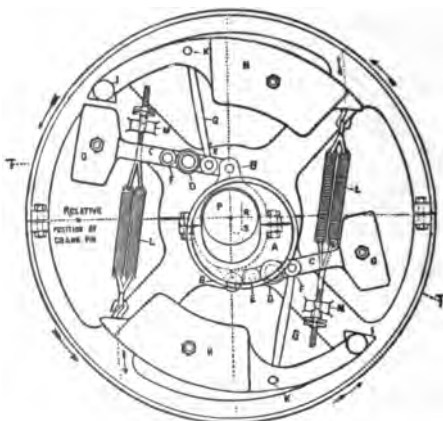
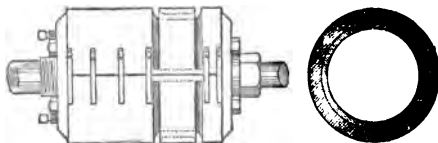

FIG. 21. FITCHBURG GOVERNOR.
FIG. 22. FITCHBURG VALVE.
A. The valve-gear is positive, with independent steam and exhaust valves. The upper valves, worked by a wrist-plate, control admission and cut-off; the lower control the exhaust and are adjustable independently of the others, but not automatically. The valves are pistons (see Figs. 22 and 23) with double ports, and are expandible to take up wear. The exhaust valves are on a line with the cylinder bottom. The governor (Fig. 21) has weights *O*, acting on fulcrums *D*, to balance the weight of the eccentric and strap. The connecting rod *G* is attached to the suspension arm *C* at *E*, acting directly on the eccentric, while the opposite rod *G'* is attached to the opposite arm *C* at *F*, acting over the pin *D* as a fulcrum so that the outward motion of both the centrifugal weights *H* acts with equal power to move the eccentric across the shaft. By transferring the ends of the rods